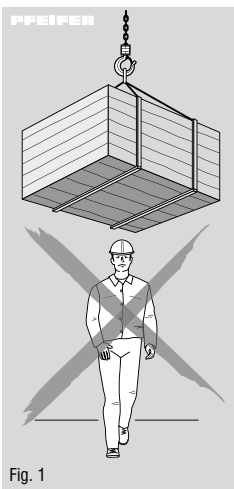

Fig. 1
- Entering the area under a suspended load is forbidden (Fig. 1).